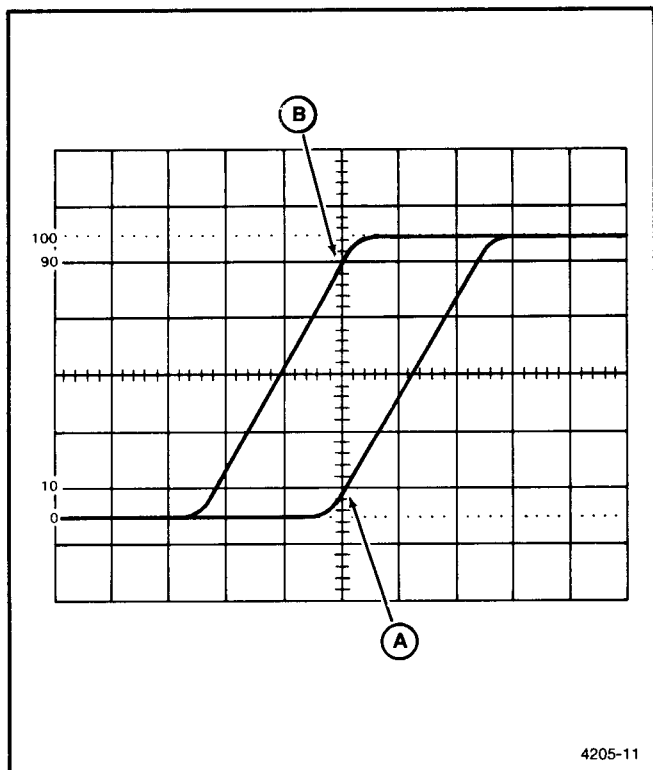

Figure 4-15. Rise time, differential time method.
7. Select the B HORIZONTAL MODE. Adjust the B DELAY TIME POSITION control until the display intersects the 10% point at the center vertical graticule line (see Figure 4-15, Point A).
9. Adjust the B DELAY TIME POSITION control until the display intersects the 90% point at the center vertical graticule line (see Figure 4-15, Point B).